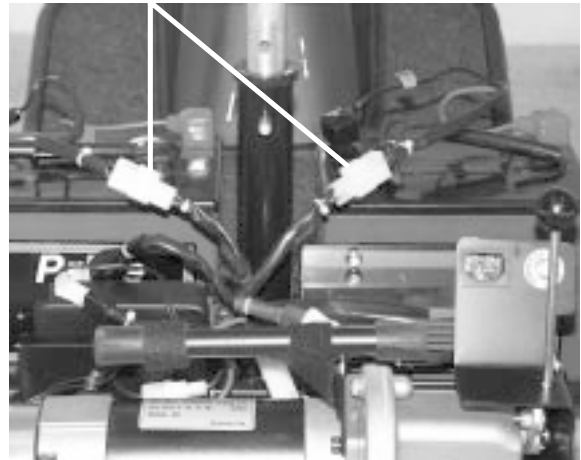

FIGURE 13. BATTERY HARNESS CONNECTORS
5. Unplug both 2-pin battery harnesses. See figure 13.
10. Connect the 2-pin battery harnesses into the mating harnesses that extend from the electronic controller module. See figure 13.